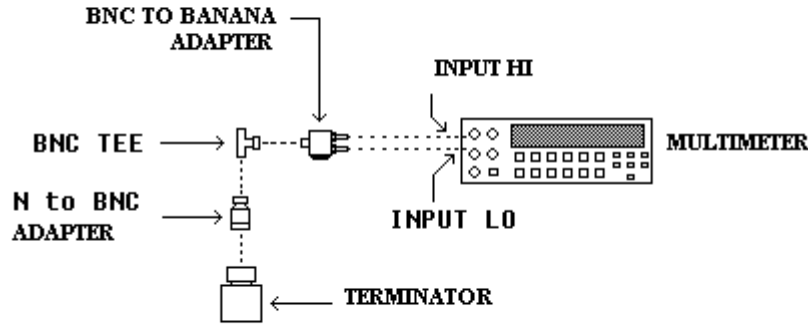

Figure 2. Termination check.
- (2) Press TI keys as indicated in (a) thru (c) below.
- (3) Wait for TI to finish self calibration.
- (4) Press TI keys as indicated in (a) thru (c) below.
- (5) Wait for TI to finish self test.
- (6) Connect equipment as shown in figure 2 below.